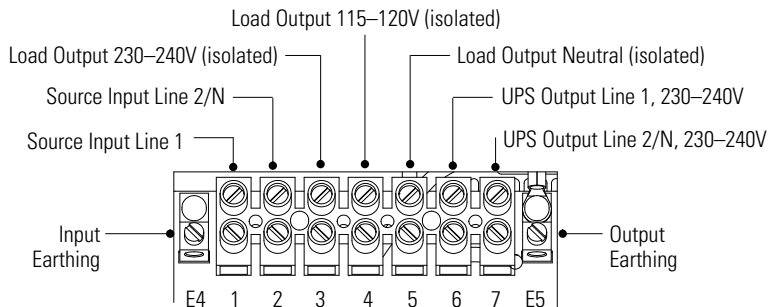

Figure 11. EPPDMG-6000-3U-HWEU Model Terminal Block
- For the EPPDMG-6000-3U-HWEU model, see Figure 11 and Table 2.